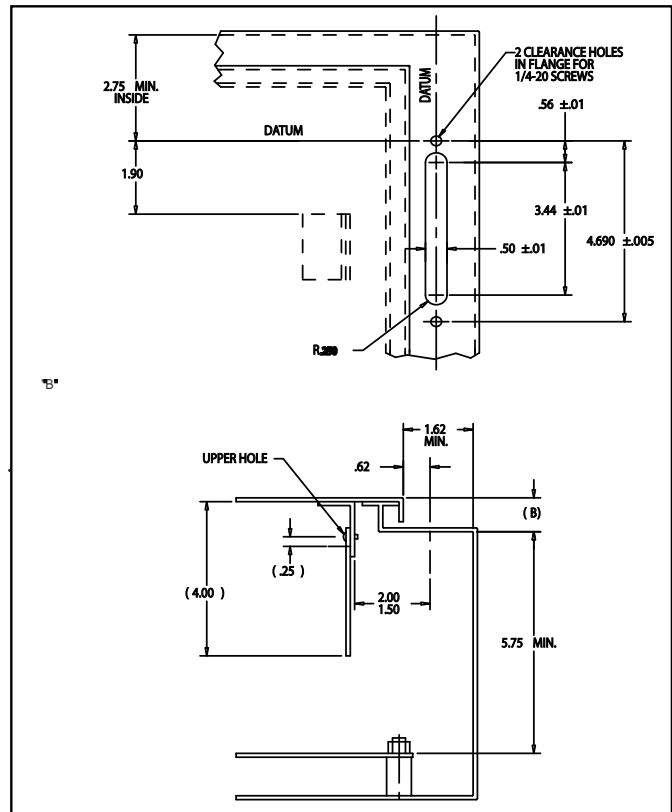

Fig. 1-7 Flange Drilling Plan for Handle and Interlock Blade Mounting Dimensions.
2. Place the outer handle mechanism with attached gasket over the enclosure cutout. (For cut-out dimensions, refer to Fig 1-7). Insert the top 1/4-20 outer handle mech mounting screw and lockwasher through the enclosure and thread into the outer handle mechanism for a few turns, but not all the way.
12. Install appropriate door hardware (supplied). See Fig 1-7.